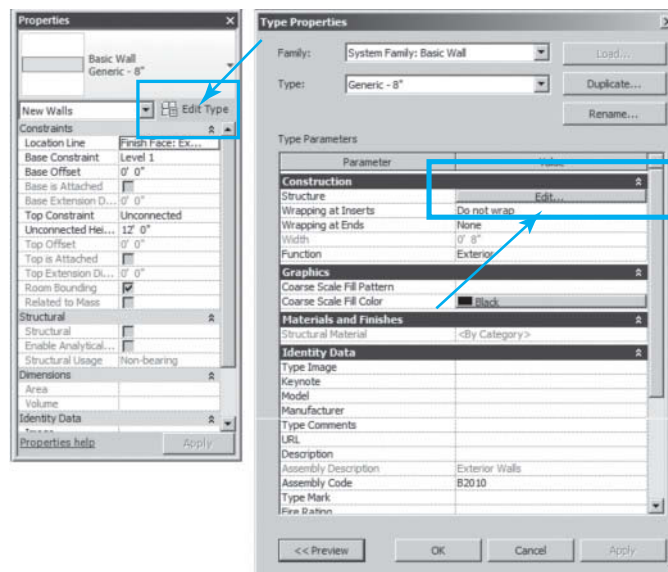

Figure 3-27
6. In the **Type Properties** dialog box, select the **Duplicate** button and change the name to **TEST WALL** (see Figure 3-27).